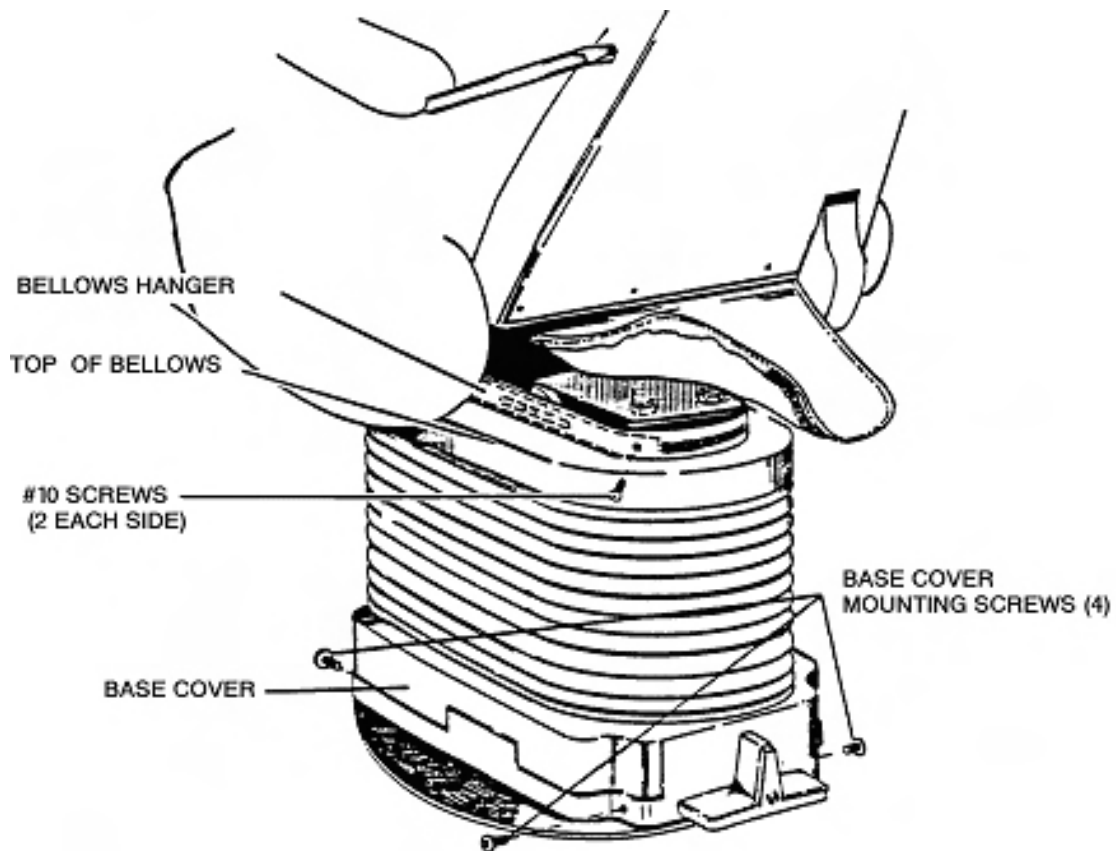

Figure 3-3. View of bellows with chair raised.
a. Chair Is In UP Position. Refer to figure 3-3.
(1) Detach the top bellows by removing the four #10 screws that secure the bellows to the bellows hanger.
(2) Lower the bellows to the base cover exposing the pantograph.
(3) Disconnect the external power source and disconnect the chair power cord from the receptacle in the lift.
(4) Remove the four nuts, lock washers and the mounting screws that secure the chair to the lift. Remove the chair.
(5) Remove the four mounting screws that secure the base cover. Refer to figure 3-3.
(6) Loosen the nut that secures the rotation lock pedal.
(7) Lift the main cover off over the top of the lift.
(25) Run the lift one-half way down and secure the bellows cover to the bellows hanger with the screws removed in step (1). Refer to figure 3-3.